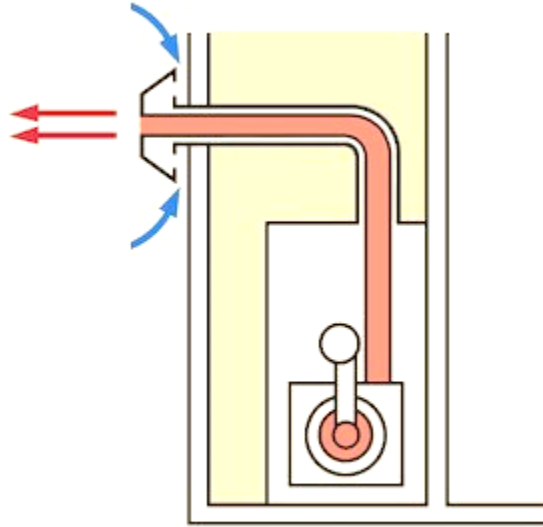

Figure 17 Direct vent power vent. (adapted from ServiceWhale, n.d.). Used with permission.
- Direct vent power vent (Figure 17)